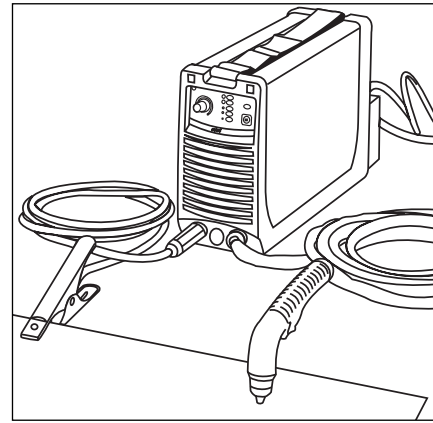

Fig. 3
- Position the earthing clamp onto the piece to be cut, ensuring that it makes a good electric connection (Fig. 3).